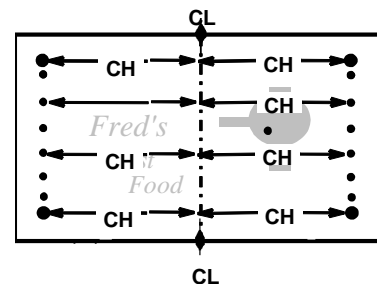

Figure 7. Measuring CH Outward From Centerlines
- Use the results for CH from Step H of the Worksheet. From several places along the **vertical** centerline, measure the **horizontal** dimension (CH) outward and mark. See Figure 7.